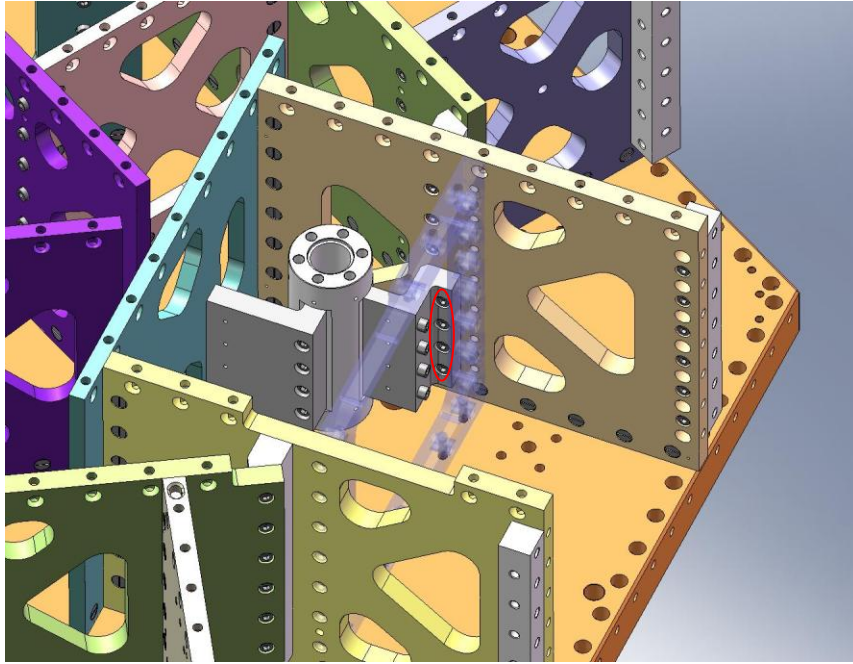

Figure 2.56. The highlighted screws are difficult to access. These likely will require hand tightening to achieve (approximately) the specified torque.
- Replace each of the (3) **Tangential Flexure Post Brackets**. Snug all the screws, then torque them to final spec. *It is difficult to access the **Bracket/Radial Rib** screws (see Figure 2.56), so these will likely need to be “torqued” by hand.*